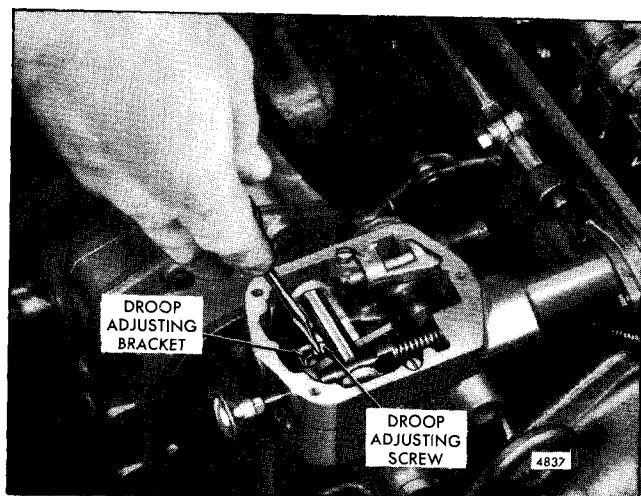

Fig. 4 - Adjusting Speed Droop
4. Refer to Fig. 4 and loosen the speed droop adjusting screw. Move the speed droop adjusting bracket so the screw is midway between the ends of the slot in the bracket. Tighten the screw. Be sure the bracket remains on the shoulder of the terminal lever.